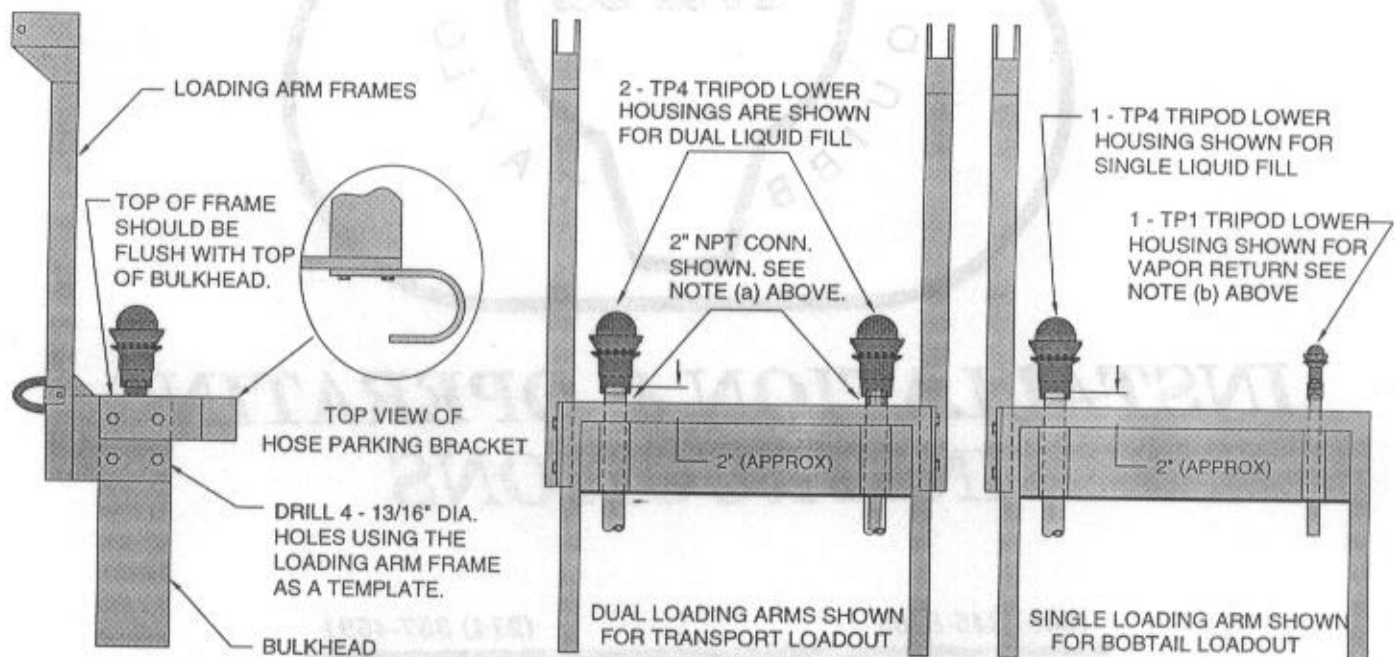

FIG. 1
The following procedures cover Installation and Operation of bulkheads with Dual or Single Tripin Loading Arm Systems for Transport or Bobtail Load Out Facilities. Before proceeding, safely remove all pressure from system piping to the Bulkhead. Liquid and Vapor system piping should terminate approximately 2" above the top surface of the Bulkhead (Refer to Fig. 1)
(A). Install Loading Arm Frame, Single or Dual as Required (Refer to Fig. 1)